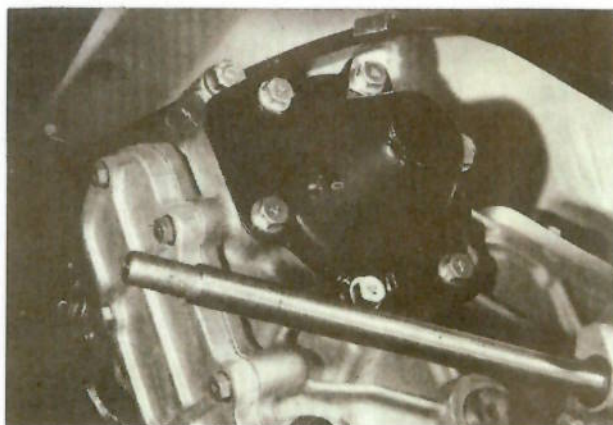

FIG. 30 — POSITION OF PARKING BRAKE FLEXIBLE WIRE HOUSING CLAMP ON SPLINE SHAFT CAP.
60. Install the rear-most flexible wire housing clamp on the spline shaft cap as illustrated, (Fig. 30). Tighten the hex-head cap bolt to 1.5 m-kg (11 ft-lbs.) torque.